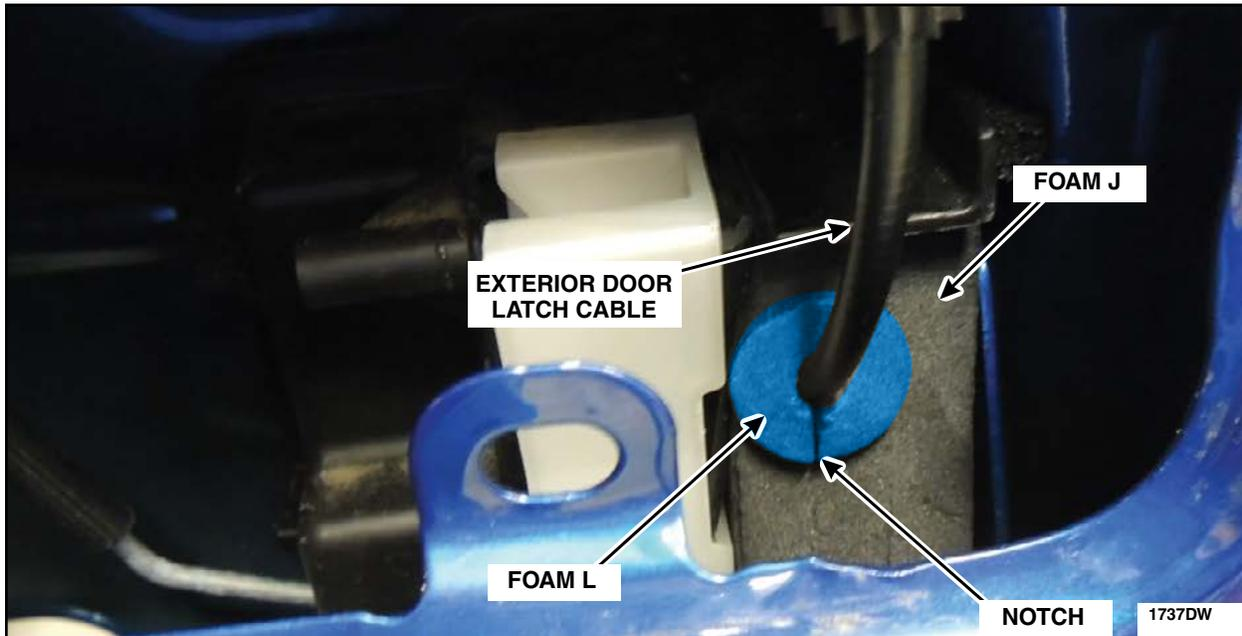

FIGURE 80
2. Install Foam L over the door latch cable and onto Foam J to cover the gap between the exterior door latch cable and Foam J. See Figure 80.